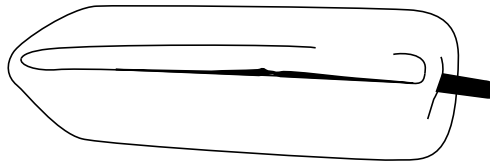

fig. 7
2. Remove the plastic cap from the barbed stem on the end of the air spring. Exhaust the air from the air spring by rolling it up toward the barbed stem. Replace the cap on the stem to hold the flat shape (Fig 7). Fold the air spring into a hot dog bun shape as shown.
5. Push the air line onto the stem, covering all the barbed section (see Fig. 7). With pliers slide the air line clamp forward until it fully covers barbed section.